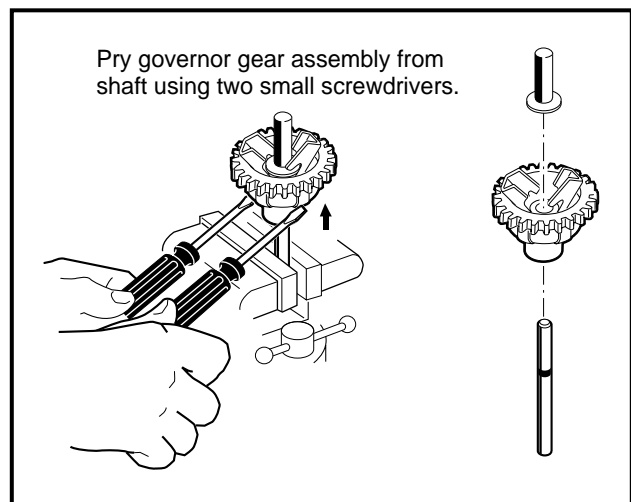

Figure 16-43 Pry Gear from Shaft
1. Secure the governor gear assembly in a vise as shown. Wrap shaft in a cloth to prevent damage (**Figure 16-43, Page 16-19**).
2. Use two small screwdrivers to pry the gear and flyweight off the shaft as shown (**Figure 16-43, Page 16-19**).